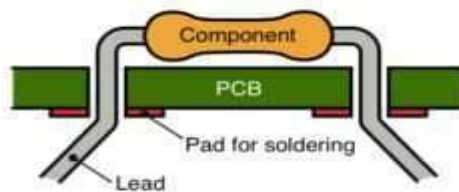

Figure 12.17 Through Hole Technology (THT)
- *THT* stands for *Through-Hole Technology*. That's the type of component where you put the legs into holes on the board and solder on the other side as shown in Figure 12.17. It is the classic type of component, often used by students as it is a bit simpler to solder.